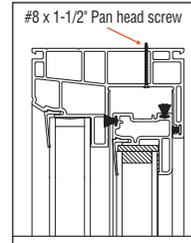

fig. 5
- a. Fasten the jambs through the interior pocket using a #8 x 2-1/2" Pan head screw. Drill a 1/8" pilot hole for each screw, centering the hole in the pocket of the frame, place the screws approximately 16" to 18" apart. Repeat steps for fastening the head. (fig. 5)